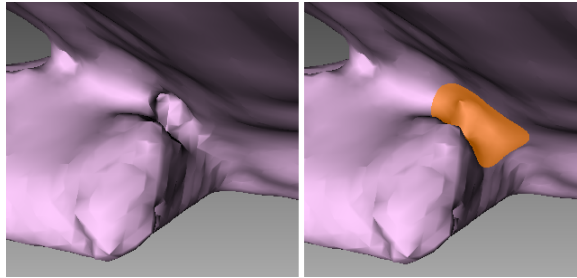

Figure 153: Before smoothing (left) and smoothing out a poorly captured area (right).
6. Hold *LMB* and paint the surface region in order to smooth it. The tool will smooth the affected areas (see Figure 153, right).